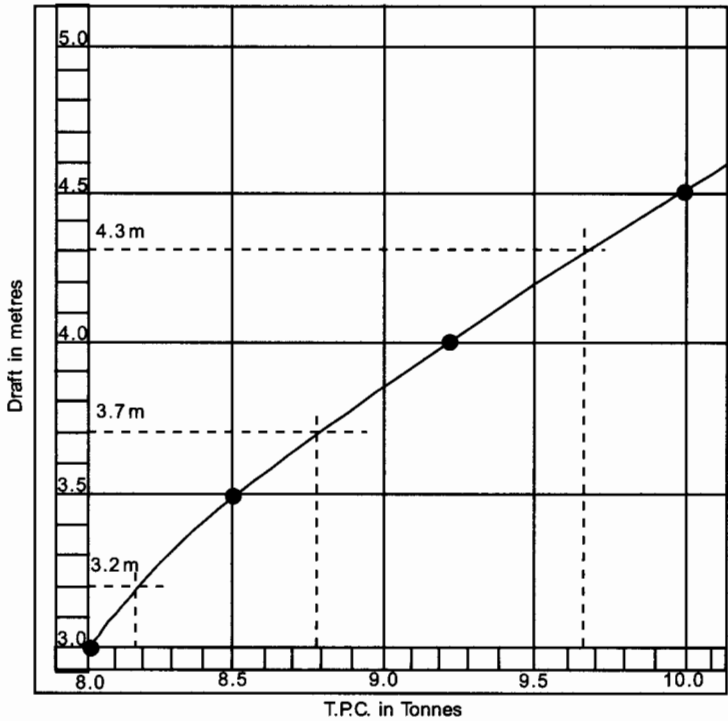

Fig. 8.1
In the case of a ship the area of the water-plane is not constant for all drafts, and therefore the TPC will reduce at lower drafts, as shown in Figure 8.1. The TPC's are calculated for a range of drafts extending beyond the light and loaded drafts and these are then tabulated or plotted on a graph. From the table or graph the TPC at intermediate drafts may be found.
- (a) For the graph see Figure 8.1